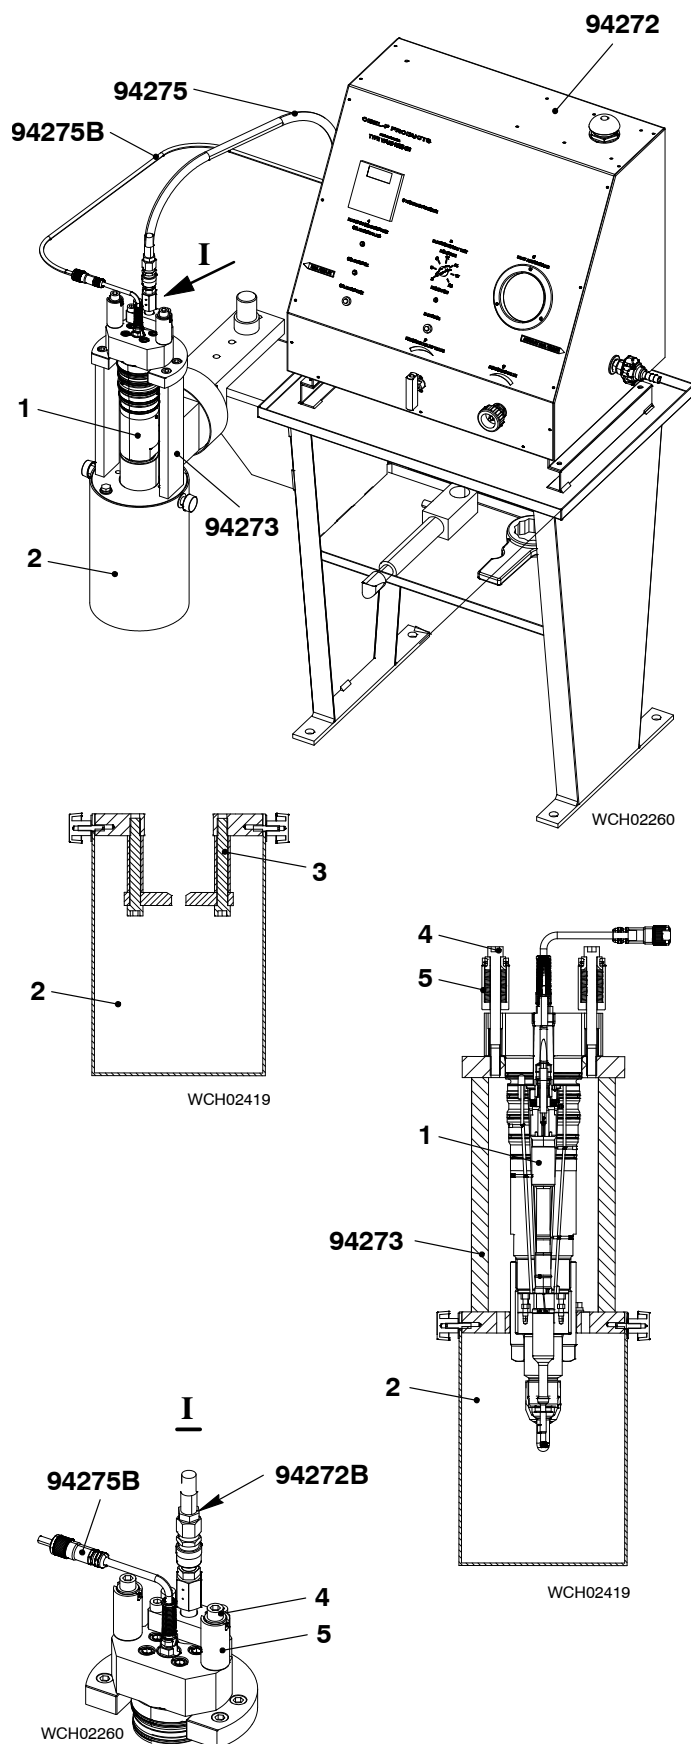

Fig. 1
- 3) Make sure that the support (3) is removed from the valve holder (94273, Fig. 1).
- 6) Attach the injection valve (1) to the valve holder with the spring cages (5) and Allen screws (4).
- 2) Remove the receiver (2, Fig. 1) from the valve holder (94273).